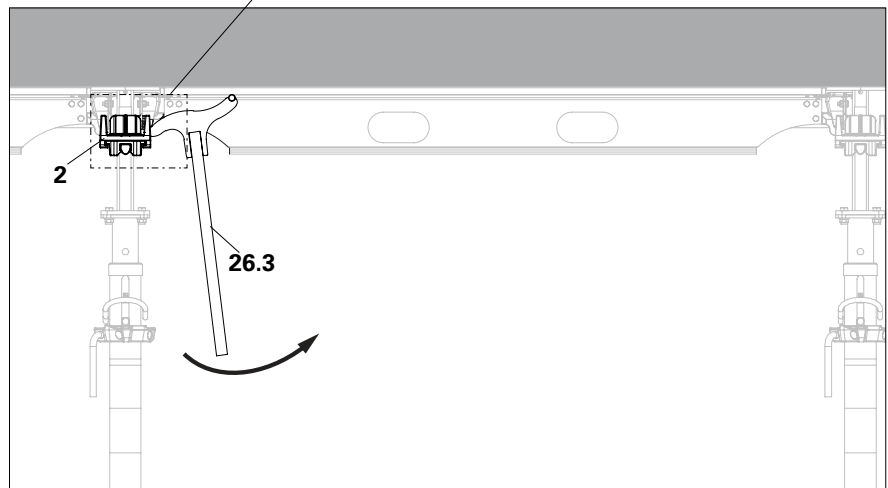

Fig. A11.13
1. While using the stripping tool for lowering the flyplate of the drophead ADH (**2**) ensure that the front face (**26a**) of head is placed in the gap between the flyplate pins and the pivot rod (**26.2**) is pressed at the top against the panel joint. (Fig. A11.13)